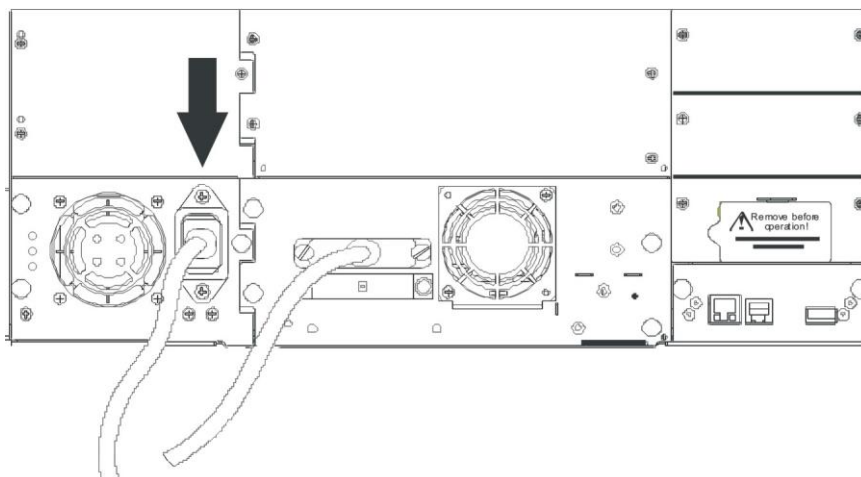

Figure 19 Attaching the power cable
5. Attach the power cable to the power connector on the back panel of the Library (see Figure 19).